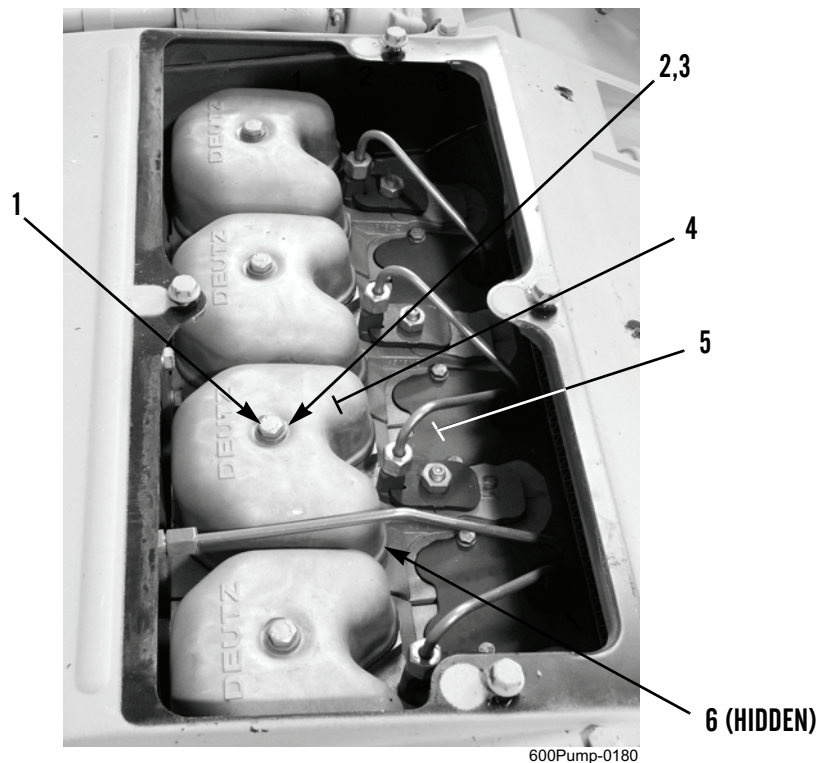

Figure 1. Valve Cover.
1. Remove bolt (Figure 1, Item 1), washer (Figure 1, Item 2), sealing ring (Figure 1, Item 3), and valve cover (Figure 1, Item 4) from cylinder head (Figure 1, Item 5). Discard sealing ring.
2. Remove gasket (Figure 1, Item 6) from valve cover (Figure 1, Item 4). Discard gasket.